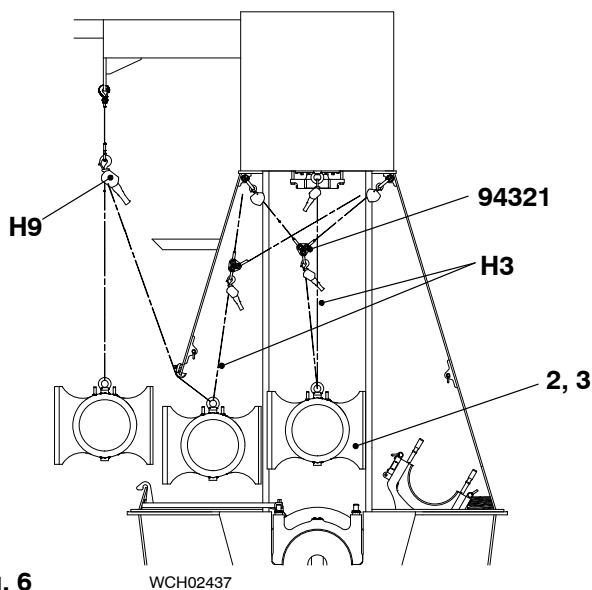

Fig. 6
- 6) Tighten the manual ratchet (H9). At the same time, carefully loosen the manual ratchet (H3, Fig. 6).
- 7) Lower the guide shoe (2) on to an applicable wooden underlay.
- 8) Do the procedure in this paragraph (step 1) to step 7)) to remove the guide shoe (3).